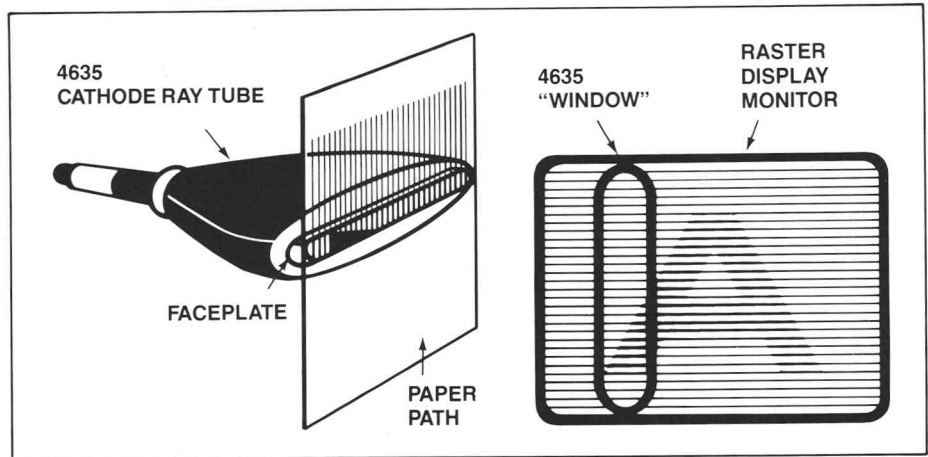

Figure 2.
*TV mode.* In this mode of operation, a portion of a TV frame is presented along the short axis of the CRT, parallel to the paper path. This portion, or window, corresponds to a narrow vertical band, perpendicular to the raster lines on a TV monitor (Fig. 2). The window is advanced electronically in synchronization with the paper movement until the entire frame is exposed, producing a large 6" x 8" image.